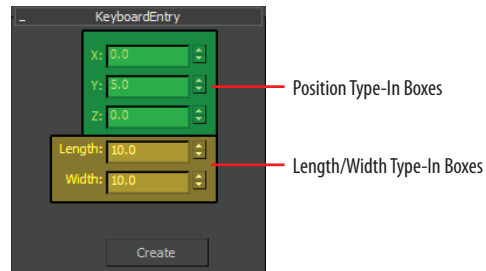

FIGURE 2.2 Position Type-in in the Plane Keyboard Entry rollout
5. Change the value in the X Position Type-In box to 0.0, the Y box to 5.0, and the Z box to 0.0, as shown in Figure 2.2. This will place the plane 5 units away from the center of the scene along the Y-axis.